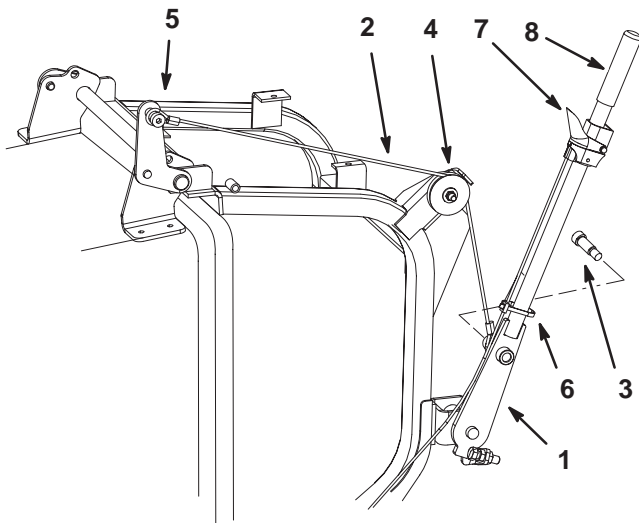

Figure 1
1. Remove the shoulder bolt and cable from the bagger arm (Fig. 1).
2. Loosen the nut and pulley on the bagger and remove the cable from the pulley (Fig. 1).
3. Remove the cable from the bagger door hinge (Fig. 1). Save all the hardware.
5. Remove the plastic cable ties on the handle and slide the latch lever down the handle (Fig. 1).